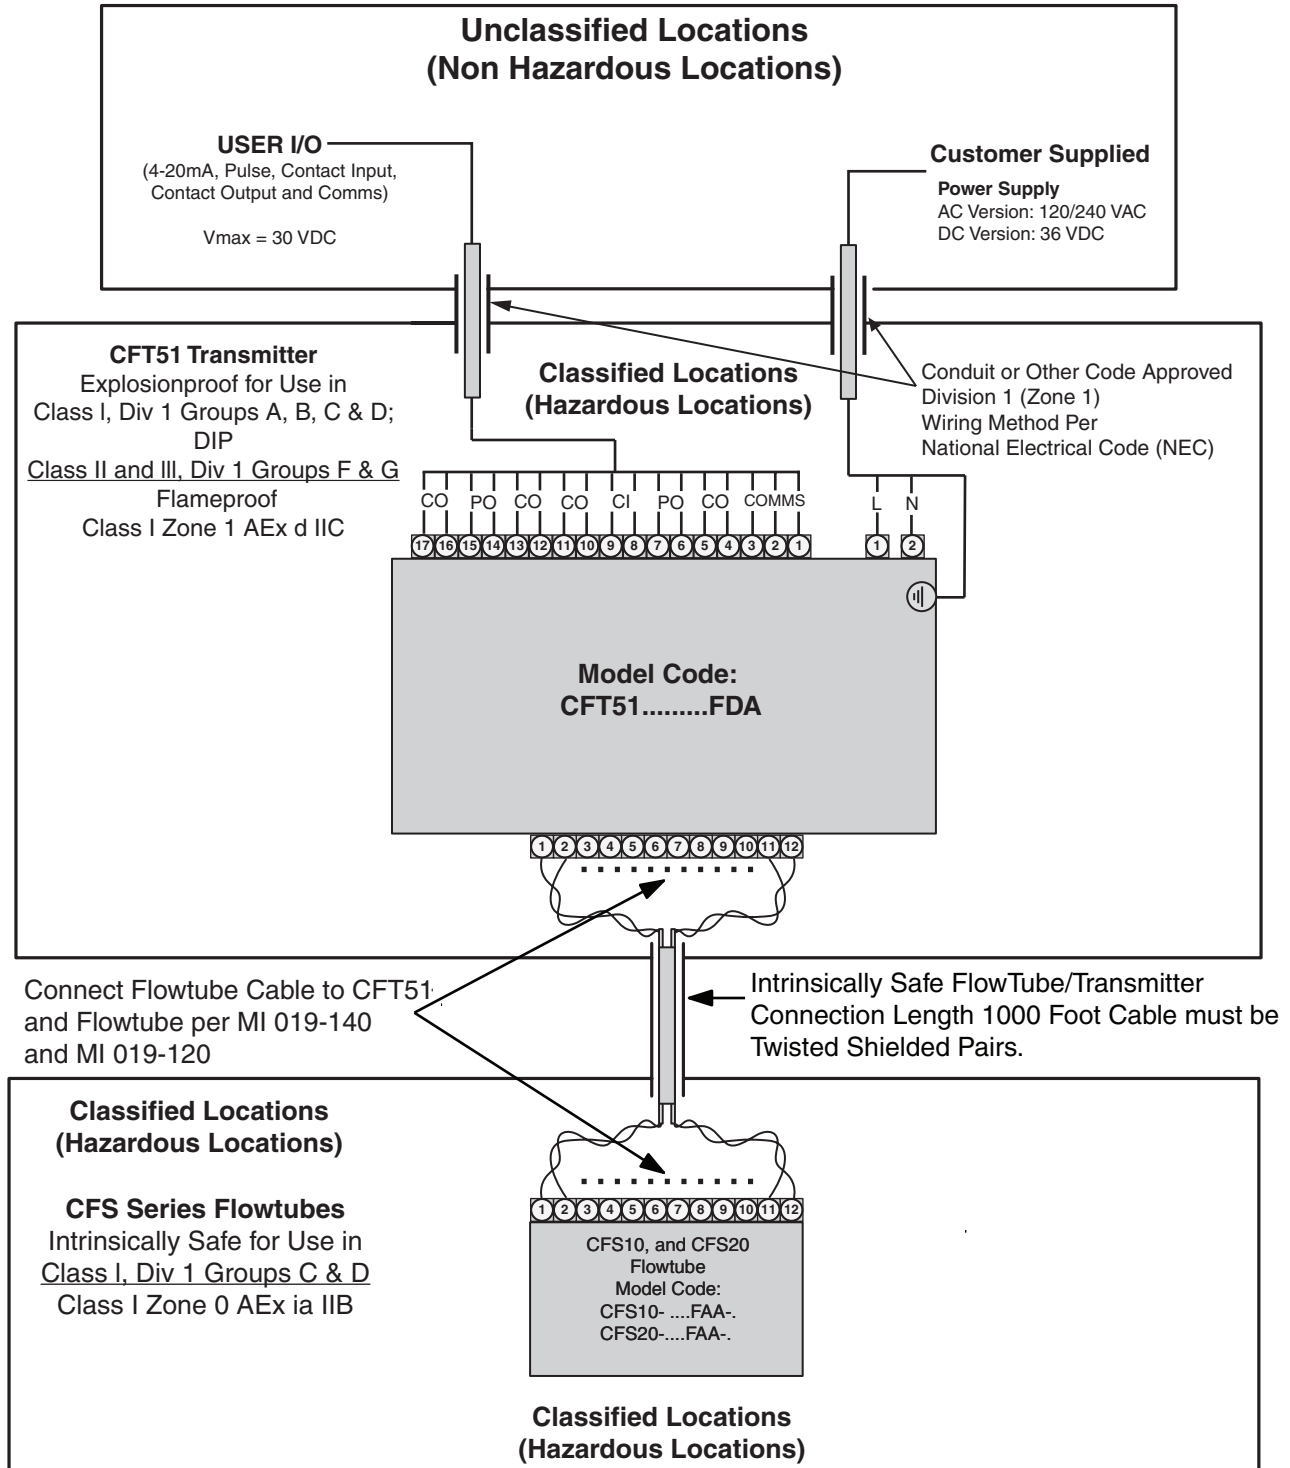

Figure 4. Flowtube in Class I, Division 1 (Intrinsic Safety) and Transmitter in Class I, Division 1 (Explosionproof) Area
1. Figure 4 must not be revised without prior FM approval.